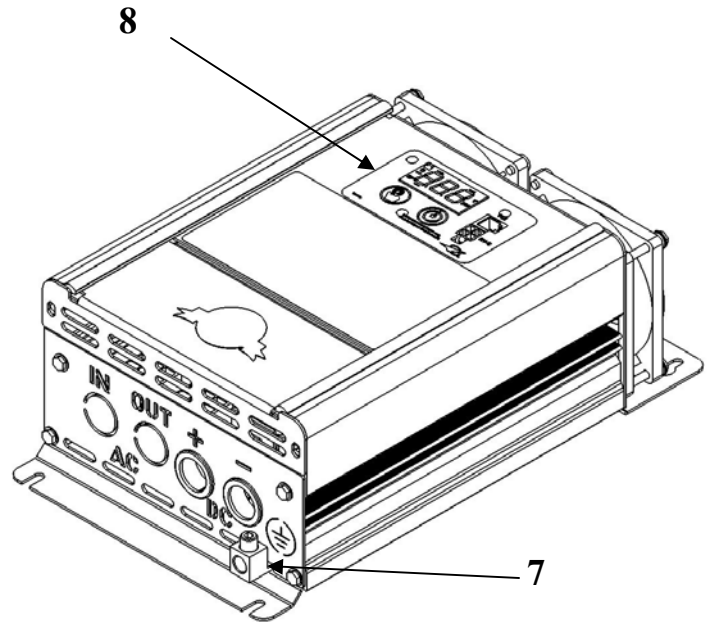
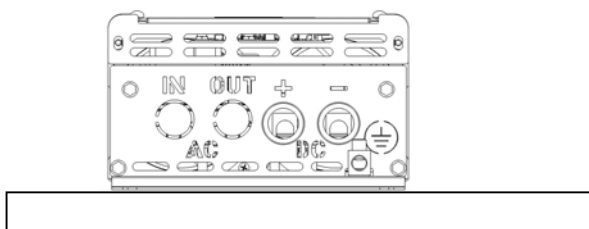

Figure 4 PD1600 Series Inverter (Isometric View)
Figure 6 Horizontal Mounting Configuration
3. Use the inverter as a drill guide by placing it flush against the mounting surface and marking the appropriate hole locations in the mounting surface (see Figure 4). Horizontal mounting of the PD1600 Series Inverter is recommended (see Figure 6), although it can be mounted in a vertical position that provides unobstructed ventilation to the fan and vent holes.